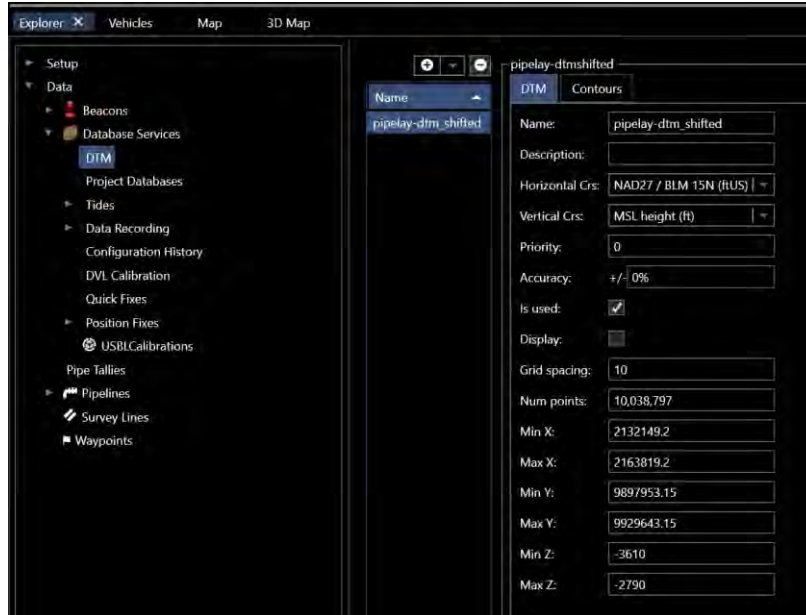

FIGURE 14-88 MANAGING DTMS
1. From the Explorer window, expand the Data > Database Services branch in the hierarchical tree and select DTM (see Figure 14-88)